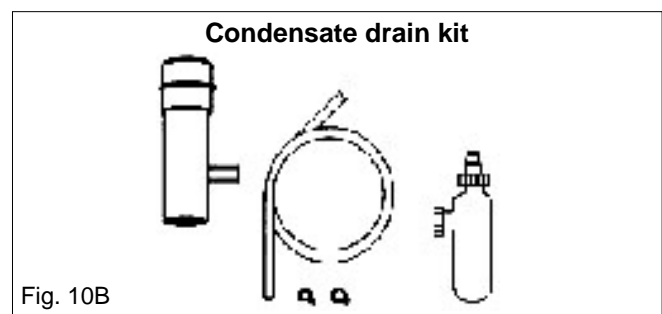

Fig. 10B
4.5.3.2 INSTALLATION OF CONDENSATE DRAIN KIT (fig. 10B)